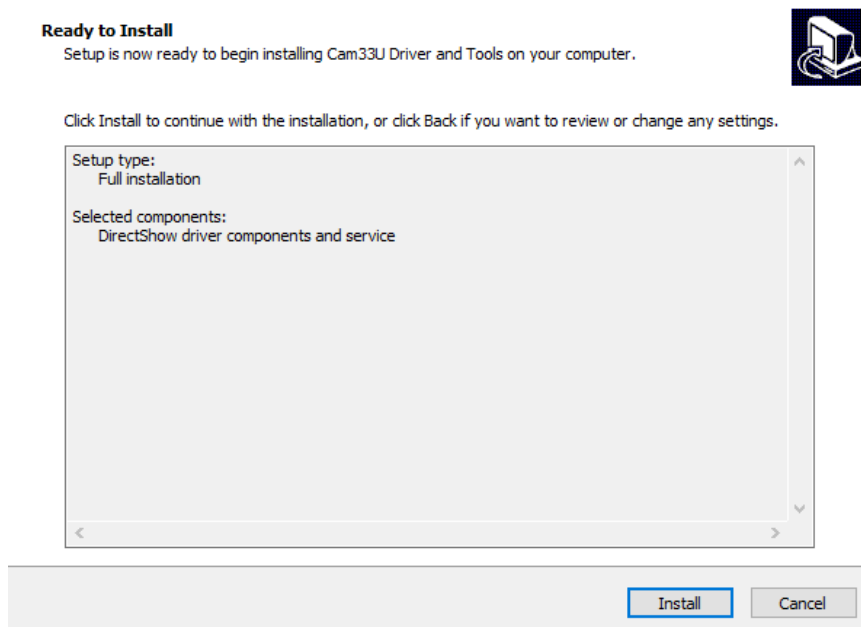
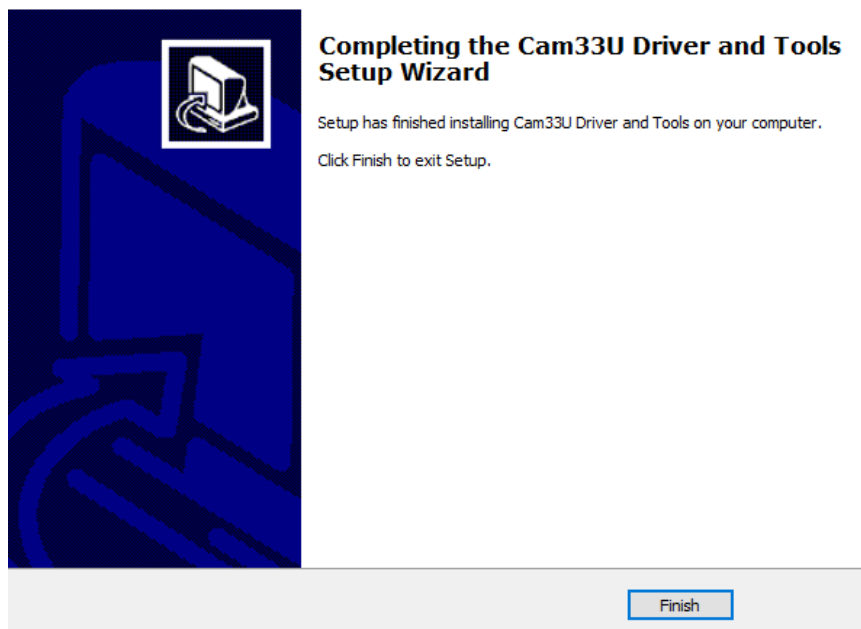

Figure 2.6: Successful Installation of the Doric Neuroscience Studio
Figure 2.7: Successful Installation of the Doric Neuroscience Studio
1. Click **Install** to begin the process (Fig. 2.6). This should take a few moments. When the installation is done, the message in figure 2.7 will show up.